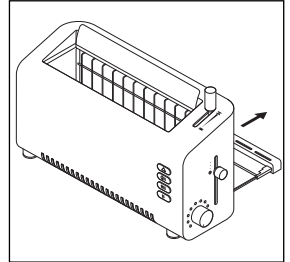

Fig.4
- 3 Slide out the crumb tray (Fig 4). Clean, then replace. Do this regularly: crumbs can smoke or even burn. Pay particular attention to cleaning melted cheese and other ingredients from sandwiches etc that may fall onto the crumb tray.